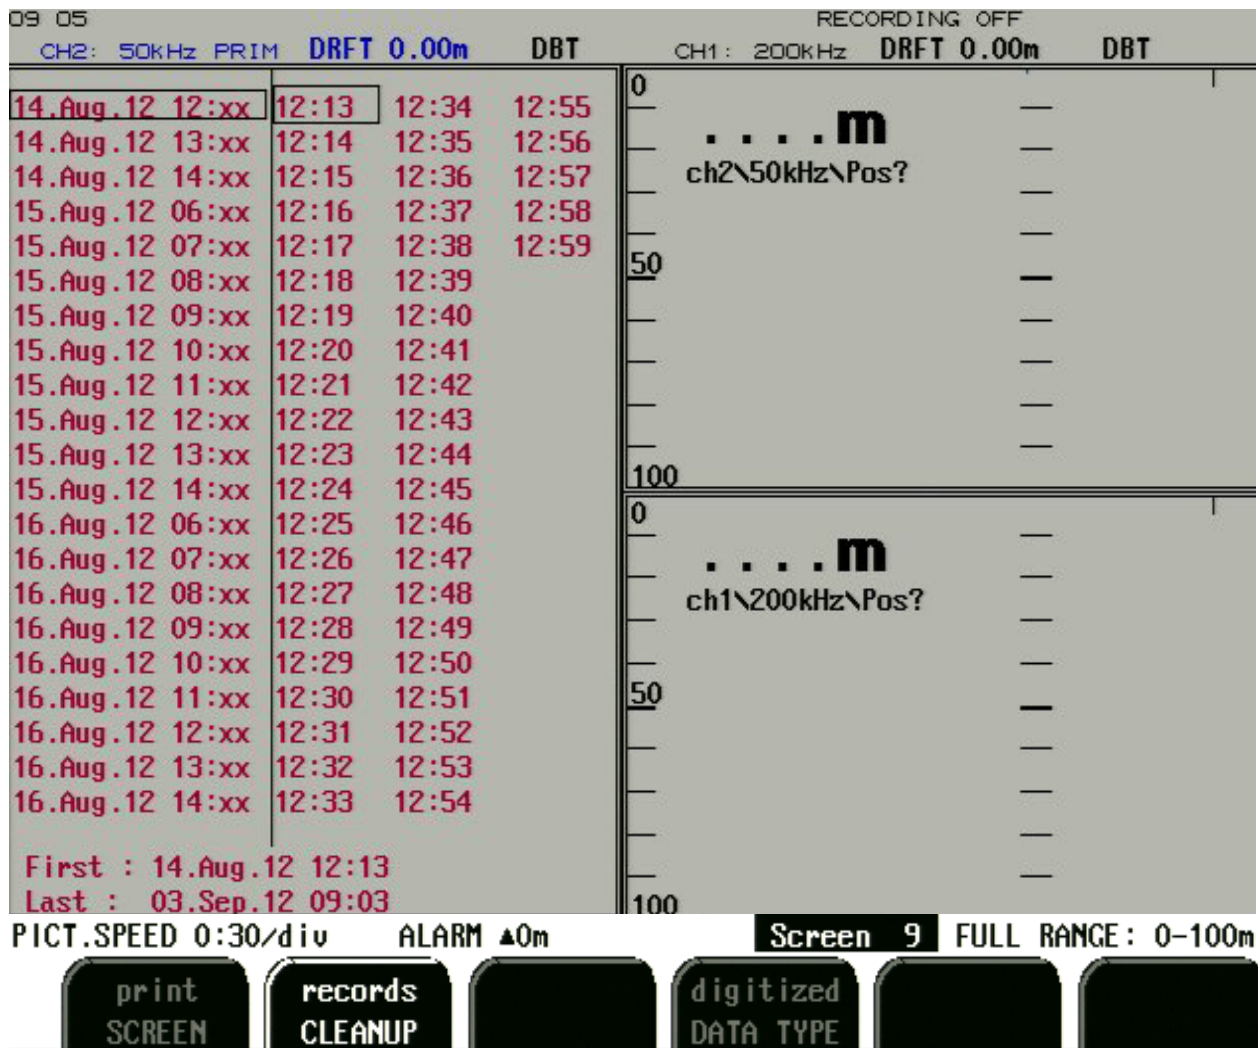

Fig. 2.10. Screen 9. Recordings options.
**Warning:** If the clock is adjusted backwards, see “Fig. 2.10. Screen 9. Recordings options.” on page 22 cleanup records.